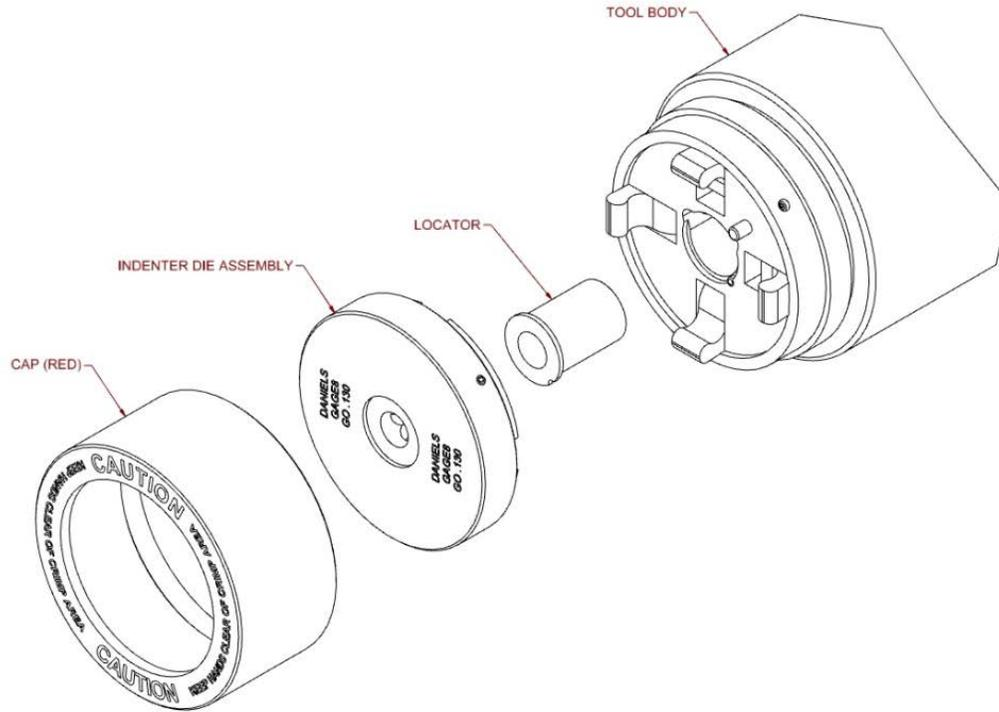

Figure 1
1. Unscrew the red cap and remove die assembly, if installed. Insert the locator in the center hole, See Figure 1.
2. Place the indenter die assembly, as shown in Figure 1, onto the tool body. The die assembly alignment pin, See Figure 3, must fit into the corresponding hole in the die assembly. Align the indenter heads with the activation arms. **THE DIE ASSEMBLY MUST SIT FULLY FLUSH AGAINST THE TOOL BODY.** Place the red cap over the die assembly, See Figure 1, and tighten **FULLY** to hold the die assembly **FLUSH** with the tool body.